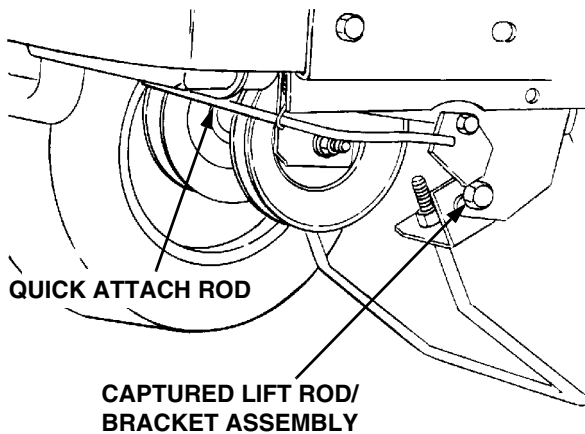

Figure 32
- Release the tractor quick-attach rod to capture the front lift rod/bracket assembly in the tractor latch receivers (Refer to Figure 32).